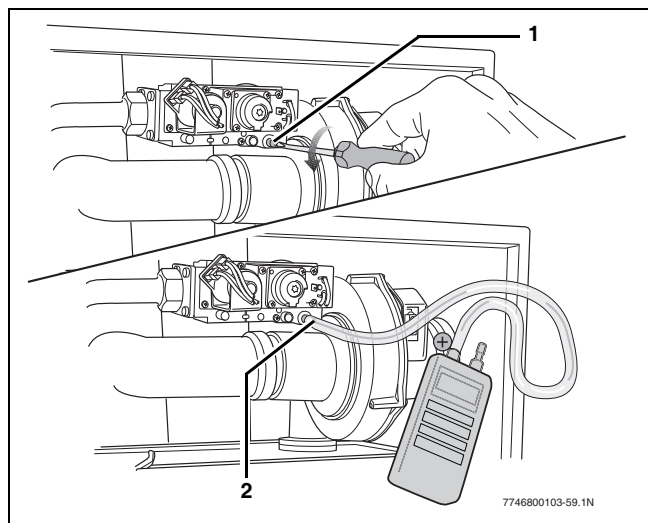

Fig. 67 Checking the gas/air ratio at minimum load
- Open the screw plug on the testing nipple for the burner pressure by 2 turns (→ fig. 67, [1]).
- Use a connection tube to connect the positive port of the pressure gauge to the testing nipple for burner pressure (→ fig. 67, [2]).